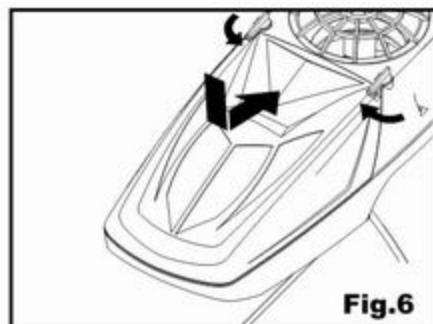

Fig.6
4. Replace BATTERY DOOR front first by aligning front edge of door and compartment, lowering rear of door into place and turning LATCHES to locked position (latches click onto little "bumps" in door). (Fig.6)